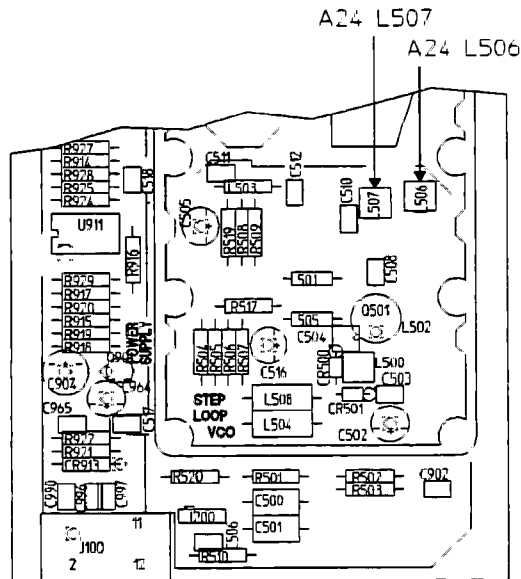

Figure 5-6. A24 Step VCO Component Locator
d. Set the power switch to ON (I), then press the following keys:
e. Through the holes in the shield can, alternately adjust A24 L506 and L507 (see figure 5-6) for a flatness (maximum amplitude minus minimum amplitude) of less than 3 dB(p-p). During this adjustment, periodically clear the spectrum analyzer's maximum hold function.